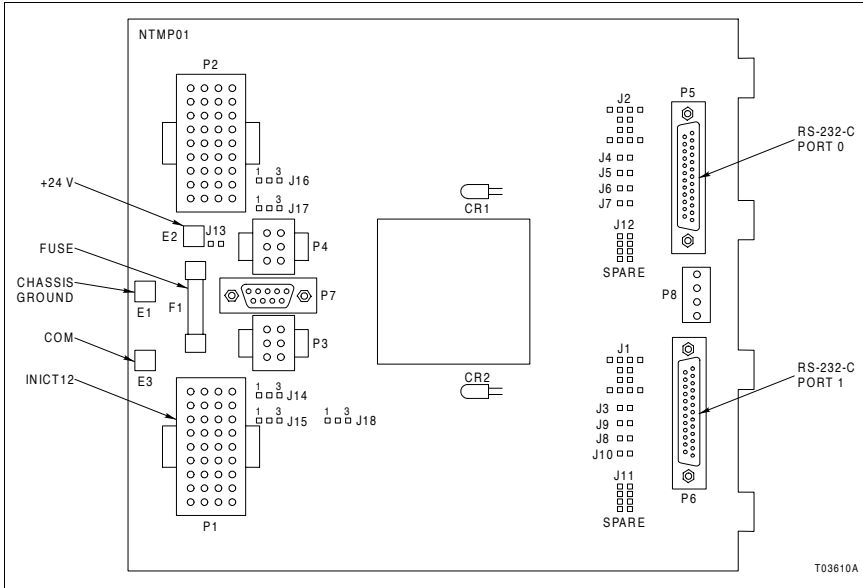

Figure PR9-1. NTMP01 Layout
This procedure gives the steps required to properly connect the NTMP01 termination unit (Fig. PR9-1). The termination unit cable connects to its associated INICT12 module and requires 24 VDC power connection.
- 3. Insert the socket connector end of the cable into P1 of the NTMP01 unit (Fig. PR9-1).